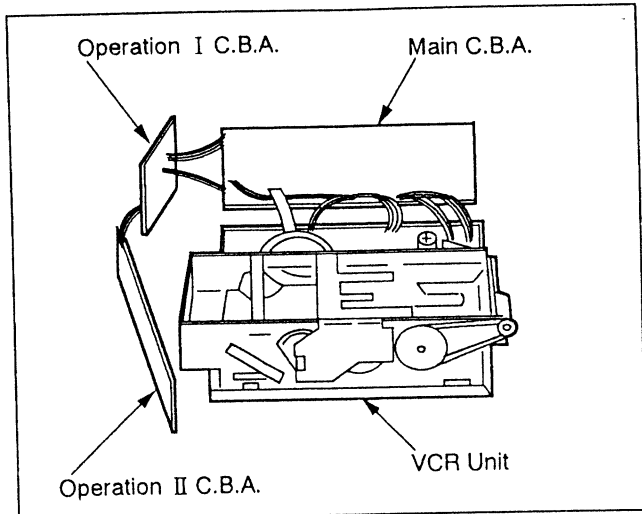

Fig. 1-1
1. In the order described in the Disassembly Section, remove the Top Cover and open the Main C.B.A., page 1-2-1. Then carefully place it into the Service Position as shown in Fig. 1-1.